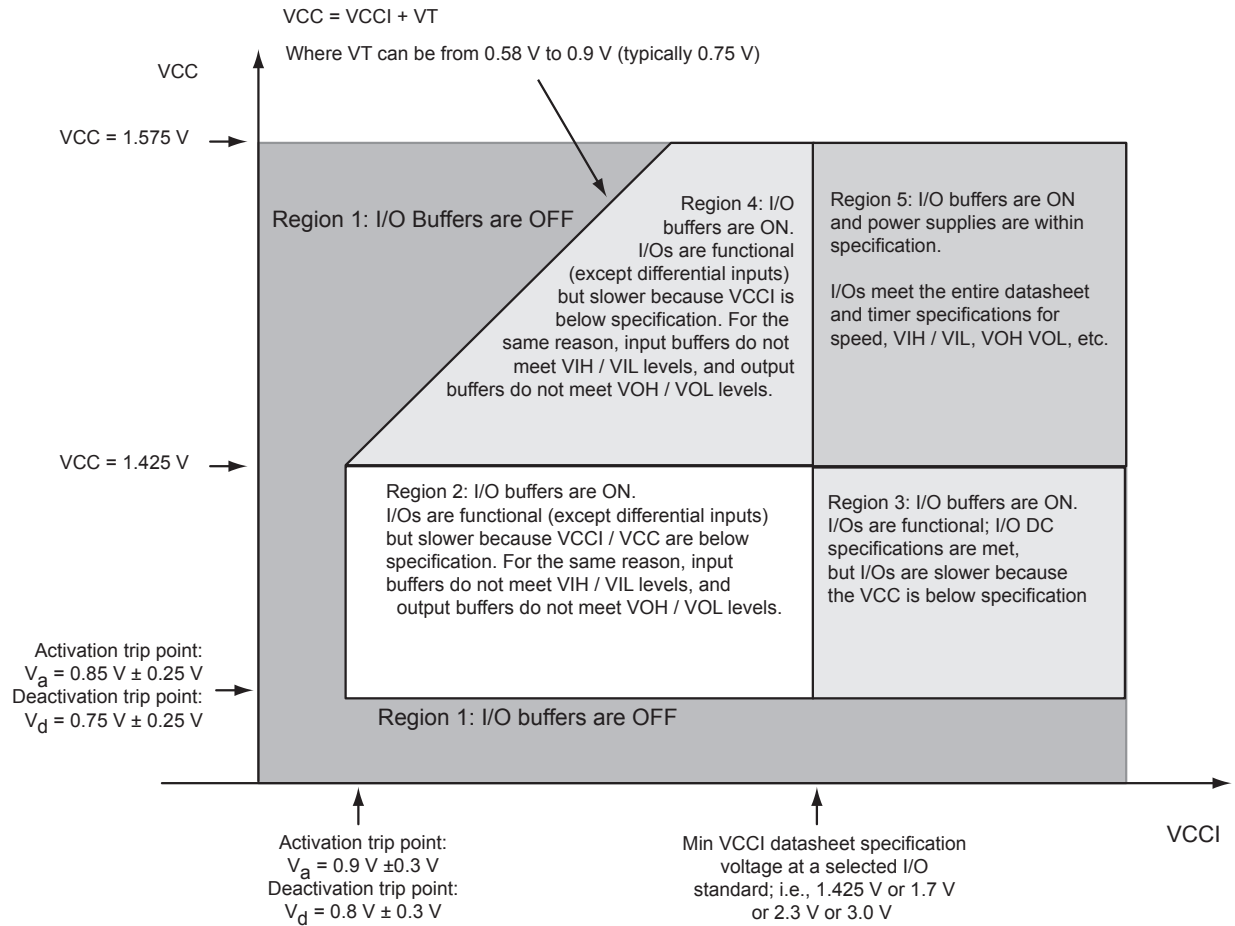

Figure 3-1 • I/O State as a Function of $VCCI$ and VCC Voltage Levels
Sophisticated power-up management circuitry is designed into every Fusion device. These circuits ensure easy transition from the powered off state to the powered up state of the device. The many different supplies can power up in any sequence with minimized current spikes or surges. In addition, the I/O will be in a known state through the power-up sequence. The basic principle is shown in Figure 3-1 on page 3-6.
1. VCC and VCCI are above the minimum specified trip points (Figure 3-1).
Microsemi recommends using monotonic power supplies or voltage regulators to ensure proper power-up behavior. Power ramp-up should be monotonic at least until VCC and VCCPLX exceed brownout activation levels. The VCC activation level is specified as 1.1 V worst-case (see Figure 3-1 on page 3-6 for more details).